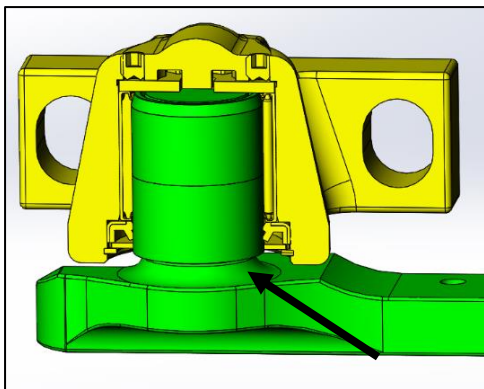

Figure 129
7. Once the seal is on inner race, push the knife head further onto the inner race by hand. DO NOT use a hammer or bench top vise to install knife head bearing onto knife head. At the same time, you are pushing down slightly rotate back and forth to get the rollers aligned onto the inner race. It will be necessary to remove the grease fitting or at least press the check ball in while installing the knife head on the knife head. Figure 129